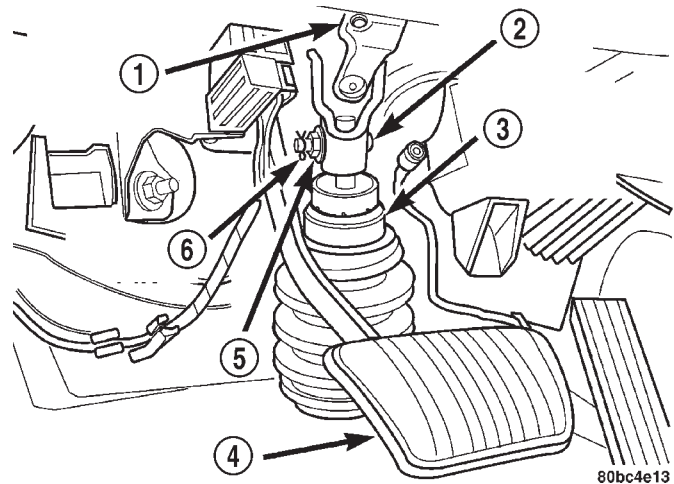

Fig. 22 Steering Column Couplings
(2) Inside the passenger compartment, remove the steering column coupling retainer pin, back off the pinch bolt nut, and remove the steering column coupling pinch bolt (Fig. 22) (the pinch bolt nut is caged to the coupling and is not removable). Separate the upper and lower steering column couplings.
(3) Raise the vehicle. Refer to **HOISTING** in the **LUBRICATION AND MAINTENANCE** group in this service manual for the correct lifting procedure.
(10) Inside the passenger compartment, reconnect the steering column lower coupling to the steering column upper coupling (Fig. 22). Install the coupling pinch bolt and tighten the pinch bolt nut to a torque of 28 N-m (250 in. lbs.). Install the pinch bolt retainer pin.
(11) Remove the steering wheel holder.
(12) While looking under the instrument panel at the lower coupling, rotate the steering wheel back-and-forth to verify that the lower coupling does not squeak against the dash-to-coupling seal.